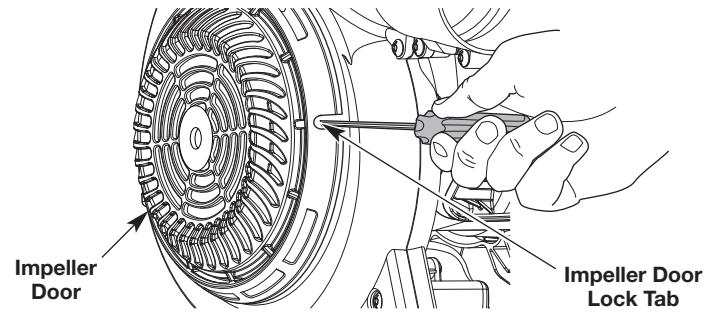

Fig. 2
1. Insert a flat-head screwdriver into the hole in the impeller door and press the impeller door lock tab inward (Fig. 2). Open the impeller door.